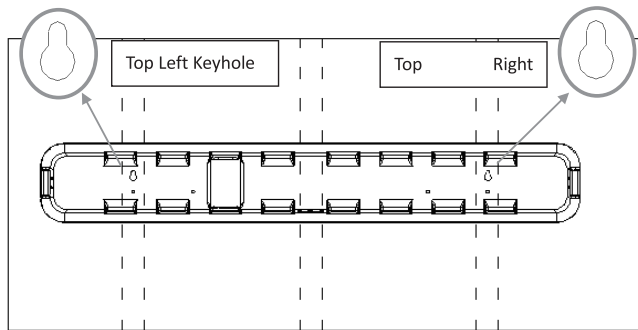

Figure 4
2. Determine the desired height location for the Storm Shell Soundbar Hard Cover. Mark this height on the center of the mounting stud positioned furthest to the right. From this mark, measure 1 inch directly below it on the center of the mounting stud and place a "drill" mark. Drill a hole into the stud at this location using a 5/32" (or 4mm) drill bit 1.5 inches deep. Screw one of the S2 screws into this location, leaving the head about 1/8" away from the wall (note: the S2 screw requires a 10mm socket). This mounting screw will be placed in the top right keyhole of the Storm Shell Back – see Figure 4.
3. Lift the Storm Shell Back to the wall and position the S2 screw head (Step 2) into the top right keyhole (Figure 4). Place a bubble level on top of the Storm Shell Back and rotate until the Storm Shell Back is level. Place a mark on the wall through the top left keyhole. Make sure to mark the top left key hole at the center of the top (where the screw will rest). Remove the Storm Shell Back from the wall and check to ensure that the mark for the top left keyhole is centered on a stud. Repeat the procedure in Step 2 to drill and screw an S2 screw for the top left keyhole. Mount the Storm Shell Back on the wall using the mounted screws and the top left and right keyholes. Check that the Storm Shell Back is level using the bubble level.